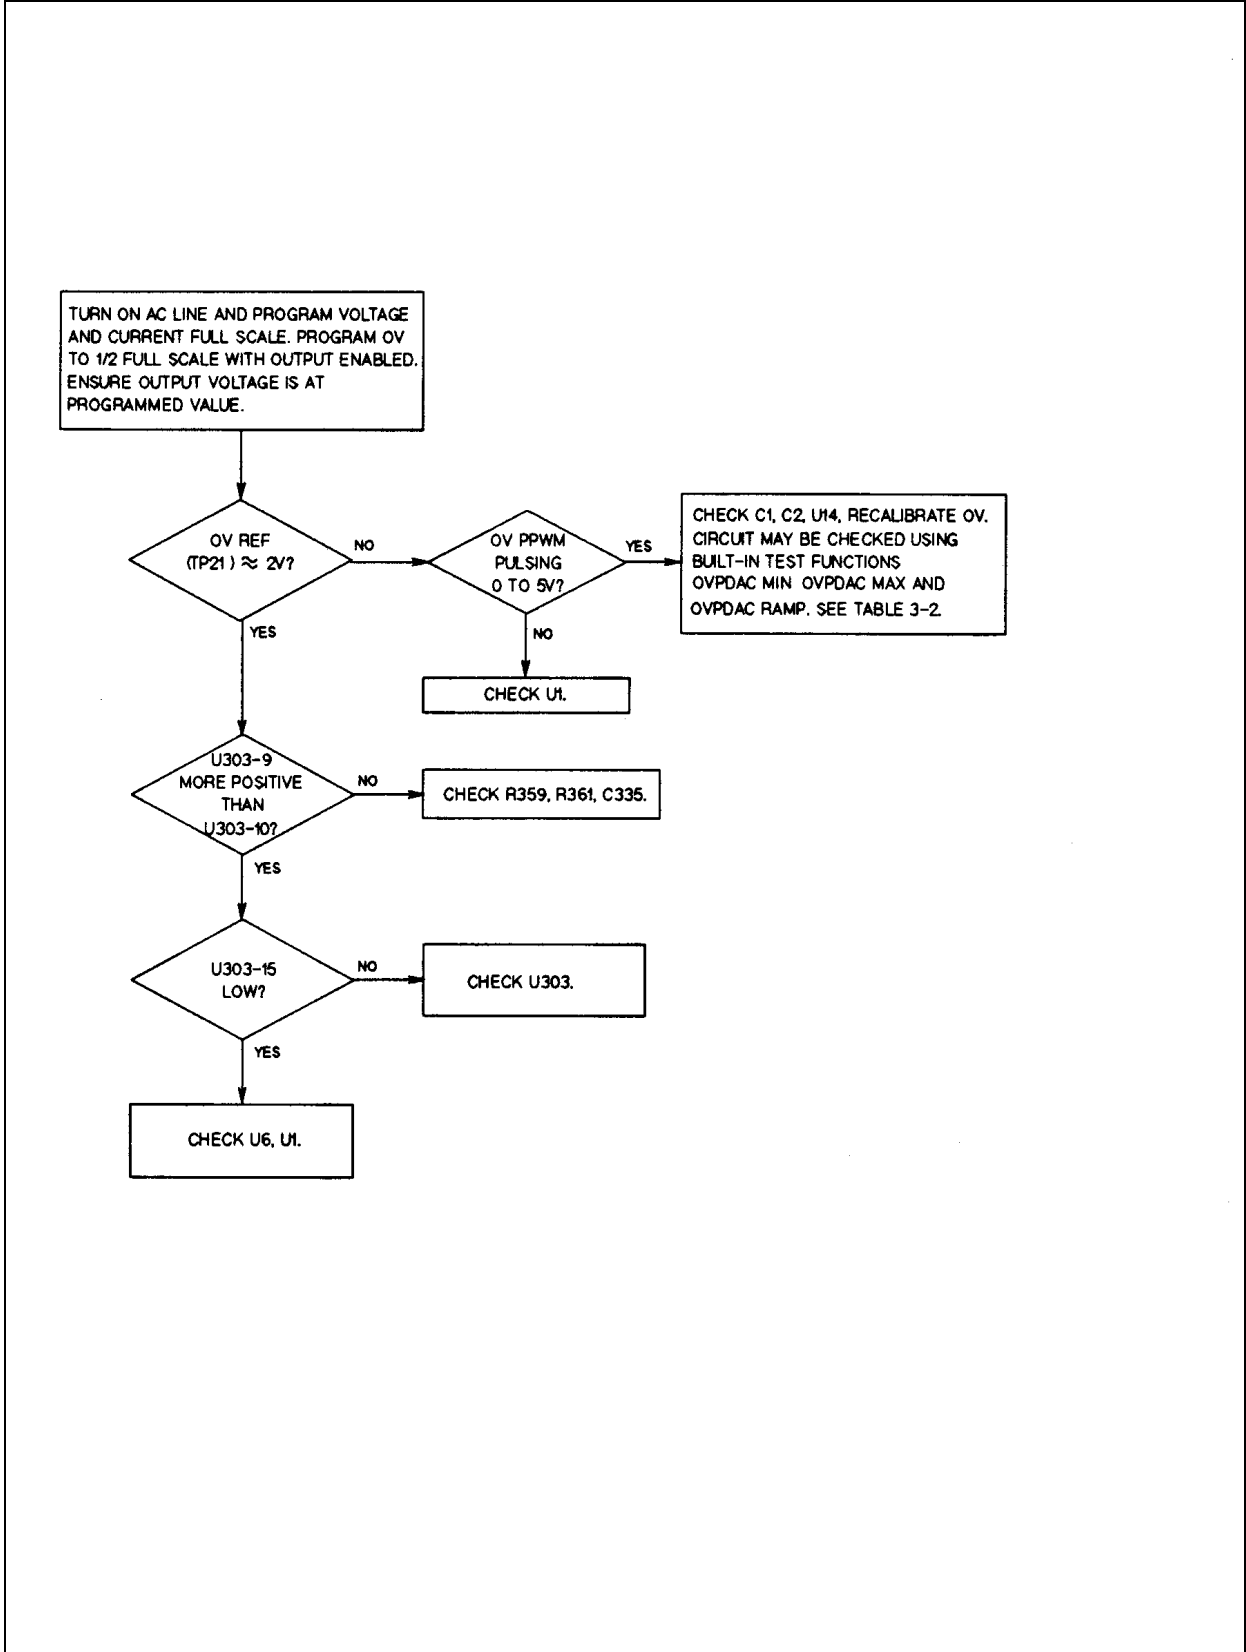

Figure 3-7. Troubleshooting Will Not Overvoltage
- Figure 3-7 - Troubleshooting Will Not Overvoltage